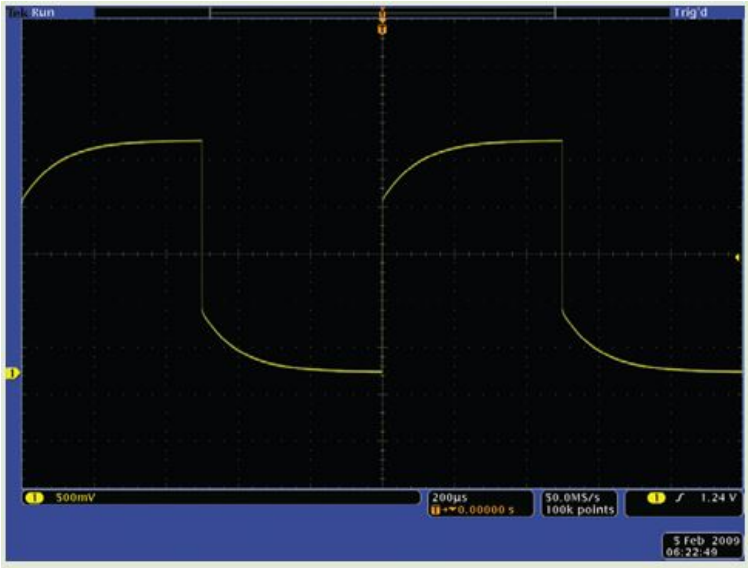

Figure 1.1: Probe Adjustment Signal
1. The Probe Adjustment Signal as seen in **Figure 1.1** represents a: